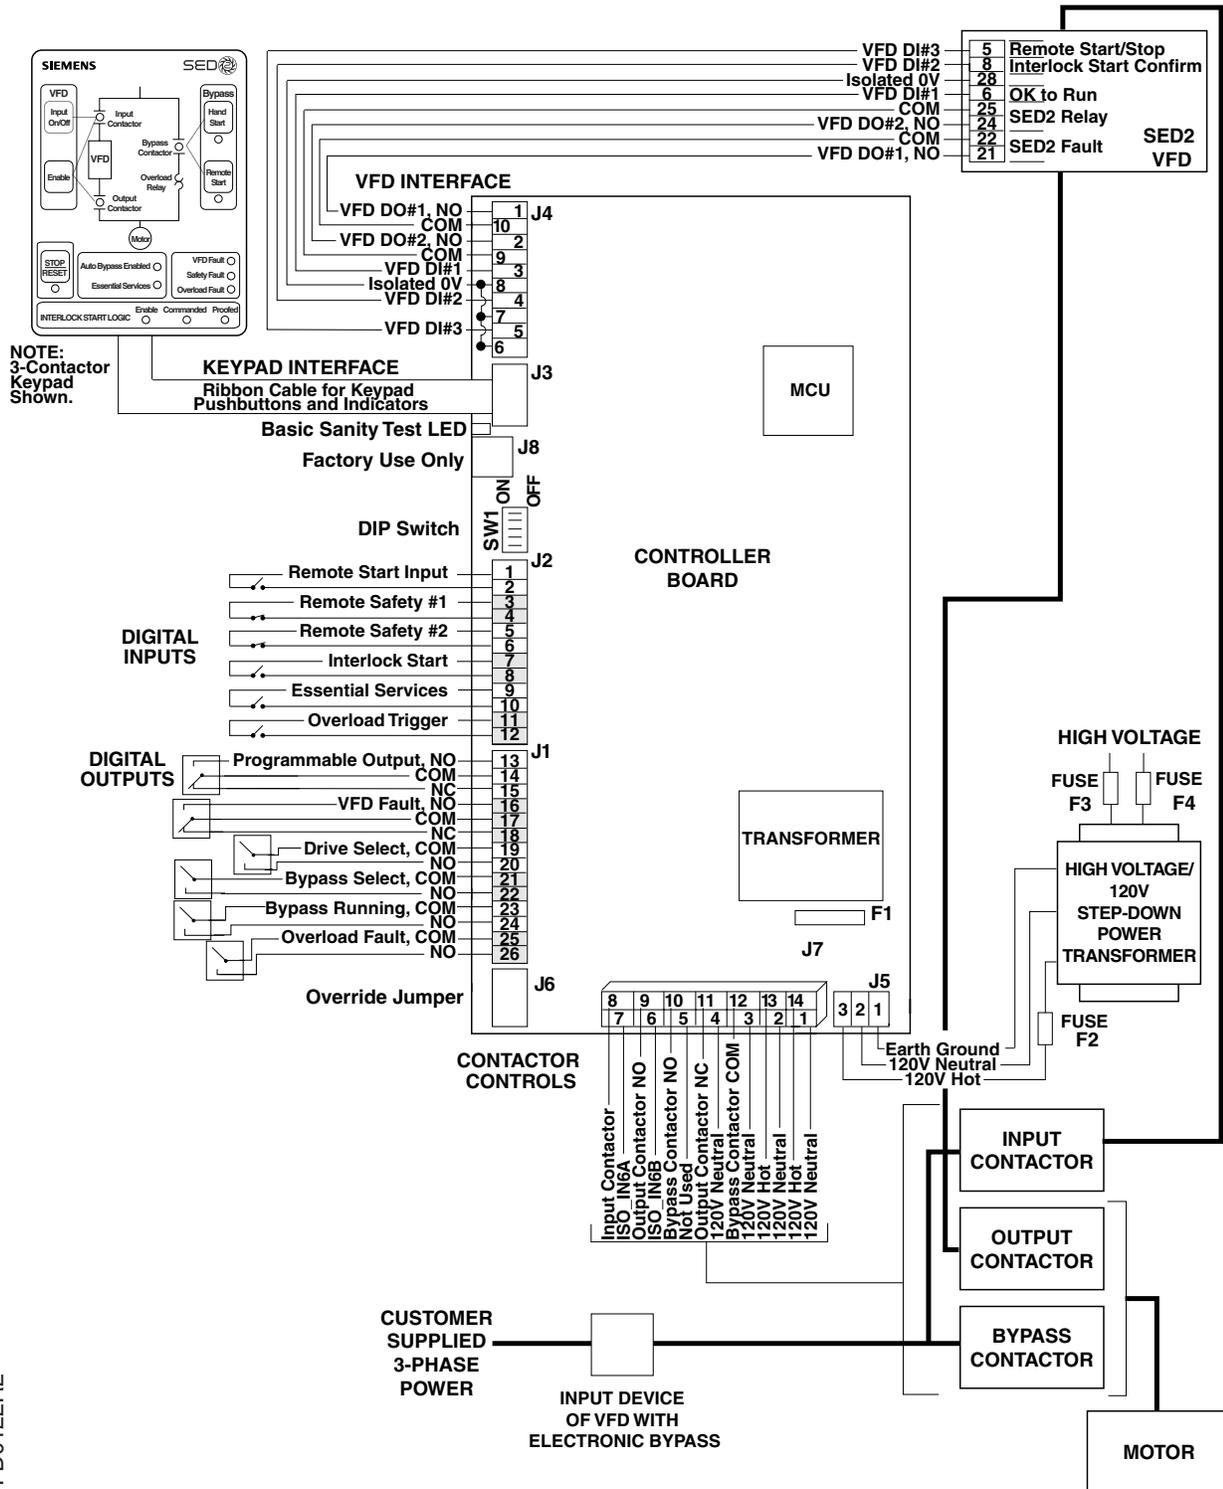

Figure 15. Controller Board Inputs and Outputs.
The Controller board contains a fuse (F1) under its cover (Figure 15). Determine if the fuse F1 needs replacement as follows:
1. If the basic sanity test indicator (Figure 15) is flashing, fuse F1 is OK and no action is required.
2. Verify that 120 Vac power is available on the secondary side of the Electronic Bypass Option power transformer (Figure 15). If power is not proper, check the Electronic Bypass Option components such as: